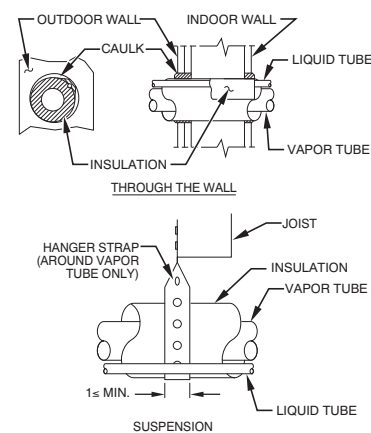

Fig. 1 – Piping Installation
5. When passing refrigerant tubes through the wall, seal opening with RTV or other pliable silicon-based caulk (see Fig. 1).
7. Do not suspend refrigerant tubing from joists and studs with a rigid wire or strap which comes in direct contact with tubing (see Fig. 1).
9. When necessary, use hanger straps which are 1 in. (25.4 mm) wide and conform to shape of tubing insulation (see Fig. 1).